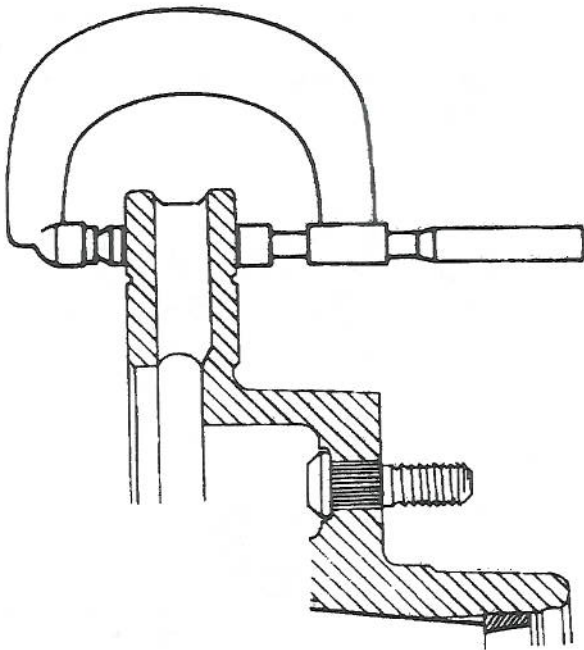

Figure 5-143. Checking Disc Thickness Variation
- (9) Measure thickness variation of the disc (figure 5-143) as follows:
- (10) Use micrometer or two dial indicators.
- (11) Take readings at four or more equally spaced points around disc circumference and 1 inch inward from outer edge of disc.
- (12) Thickness variation must not vary from point-to-point by more than the figure stated in table 6-1. If thickness variation exceeds limit, disc must be refinished. If refinishing would cause disc thickness to fall below figure prescribed by table 6-1, disc must be replaced.